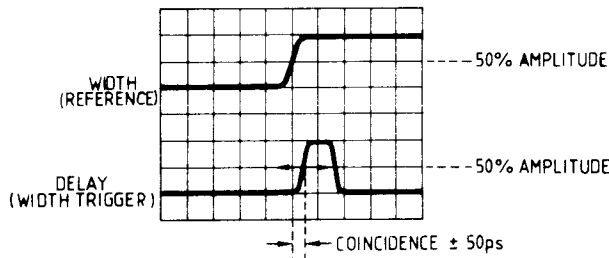

Figure 5-10
2. Change the probe connection to the width trigger and adjust A126 R138 for 0 ± 50 ps difference between width trigger and graticule center as shown in Figure 5-10.